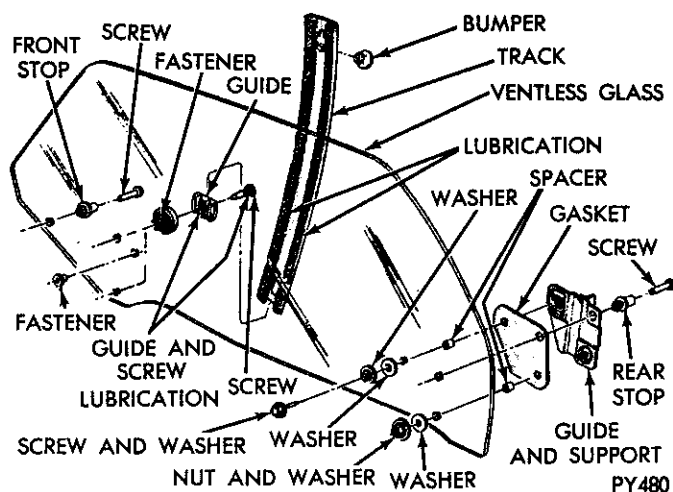
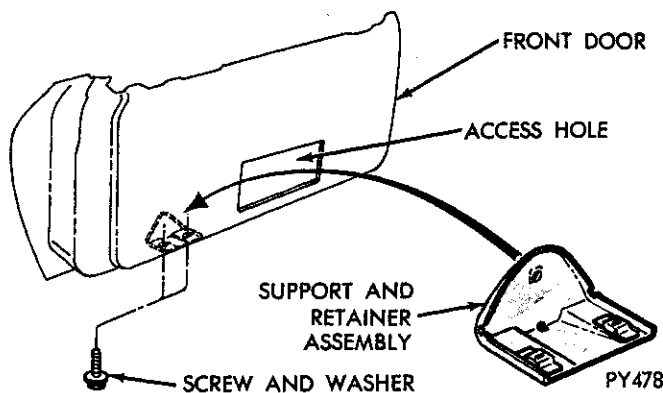

Fig. 28—Glass Assembly—Ventless
Fig. 32—Lower Front Track Support
GLASS ASSEMBLY (VENTLESS) (Fig. 28)
(5) Install lower support front track to front door (Fig. 32).
(6) Secure glass guide stabilizer track, up stops, to front door.
(7) Install glass sub-assembly to door and attach lift channel (Fig. 28).
(8) Install rear track.
(9) Install upstops front and rear to door outer rear panel belt reinforcement.
LOWER FRONT TRACK SUPPORT (Fig. 32)